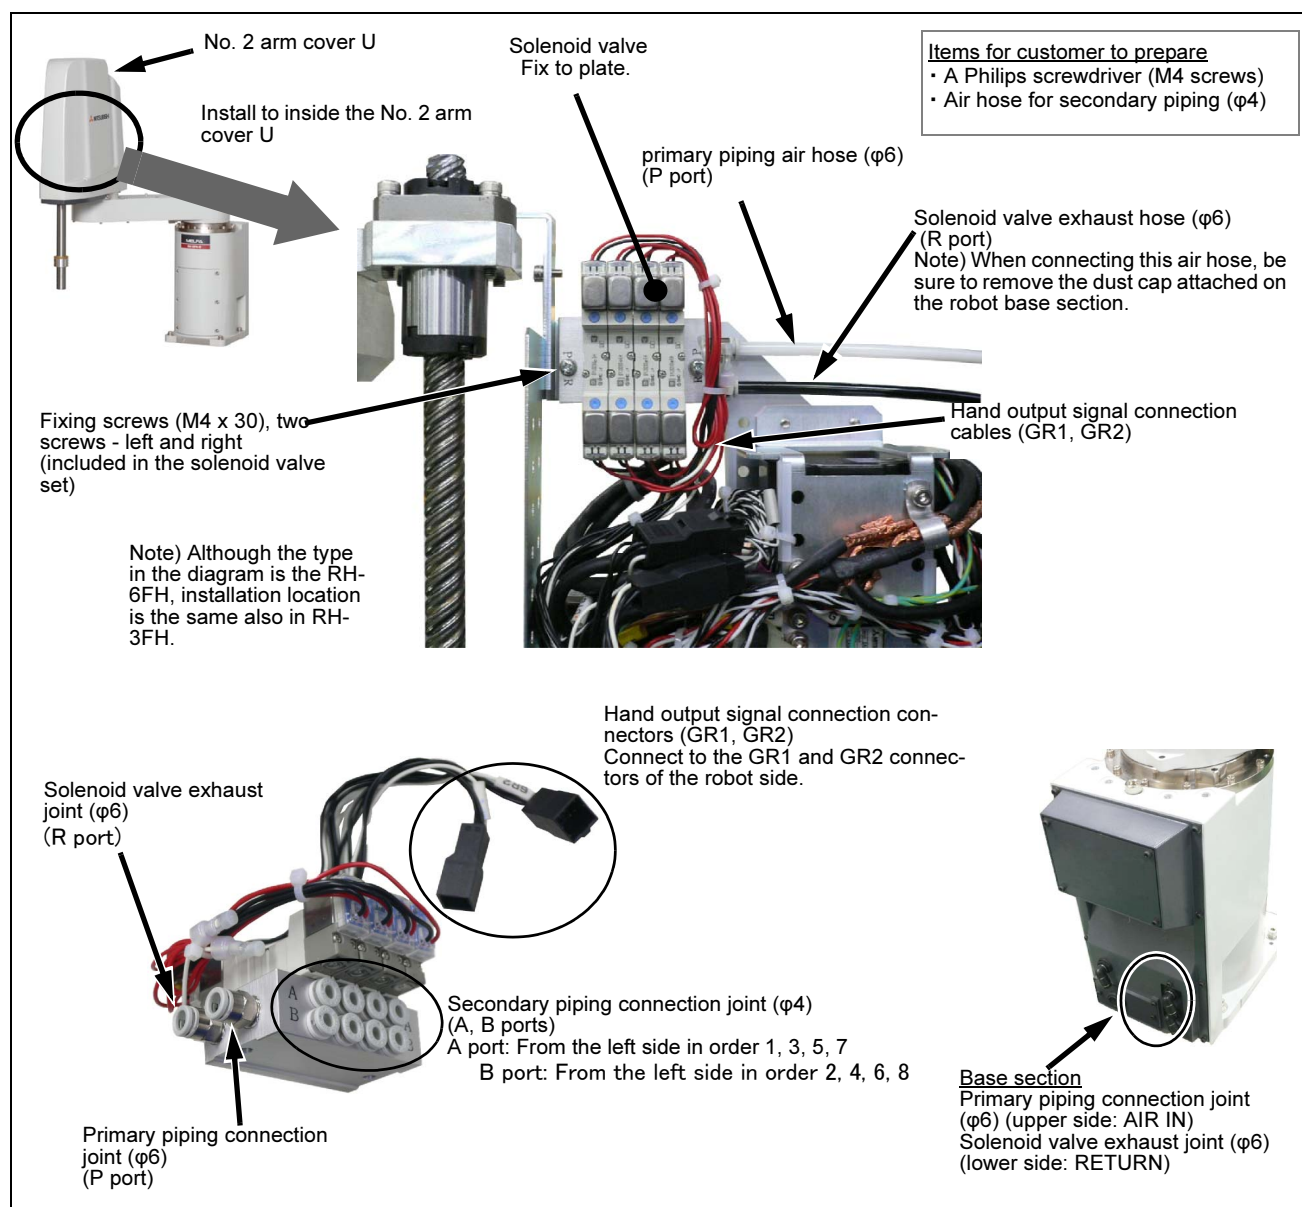

Fig.3-1 : Solenoid valve installation procedures (RH-3FH/6FH)
The installation summary of the solenoid valve is shown in Fig. 3-1 and Fig. 3-1. Remove the No.2 arm cover U, and install the solenoid valve on the No.2 arm. Turn the controller's power OFF before this installing operation. Refer to Page 68, "5.3.2 Installing/removing the cover" for removing/ installing the cover.
- 2) Fix the solenoid valve to the plate in the position indicated in Fig. 3-1. Place it so that the solenoid valve's primary piping connection joints (P, R ports) are located on the right hand side, and fix it securely using the M4 screws included (tightening torque: 1.39 to 1.89N · m).
- 2) Fix the solenoid valve to the plate in the position indicated in Fig. 3-1. Place it so that the solenoid valve's primary piping connection joints (P, R ports) are located on the upper side, and fix it securely using the M4 screws included (tightening torque: 1.39 to 1.89 N · m).